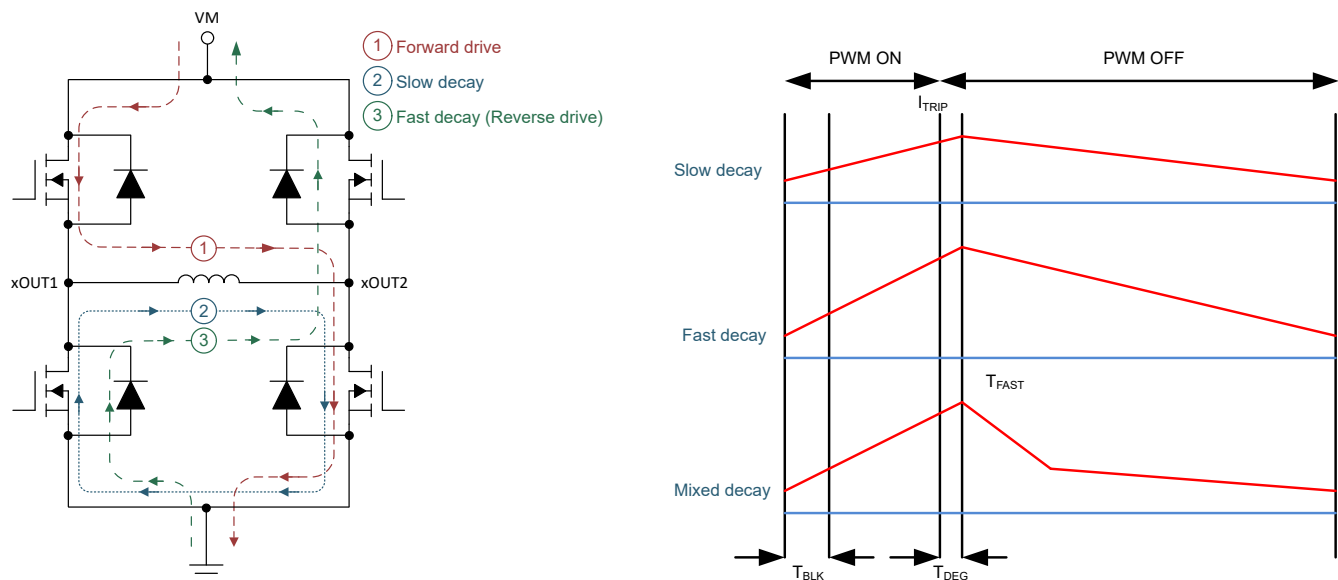

Figure 7-11. Decay Modes
During PWM current chopping, the H-bridge is enabled to drive through the motor winding until the PWM current chopping threshold is reached. This is shown in Figure 7-11, Item 1.
- In fast decay mode, as soon as the PWM chopping current level is reached, the H-bridge reverses state by switching on the opposite arm MOSFETs to allow the winding current to flow in the opposite direction. As the winding current approaches zero, the H-bridge is disabled to prevent further reverse current flow. Fast decay mode is shown in Figure 7-11, item 2.
- In slow decay mode, the winding current is re-circulated by enabling both low-side MOSFETs in the H-bridge. This is shown in Figure 7-11, Item 3.